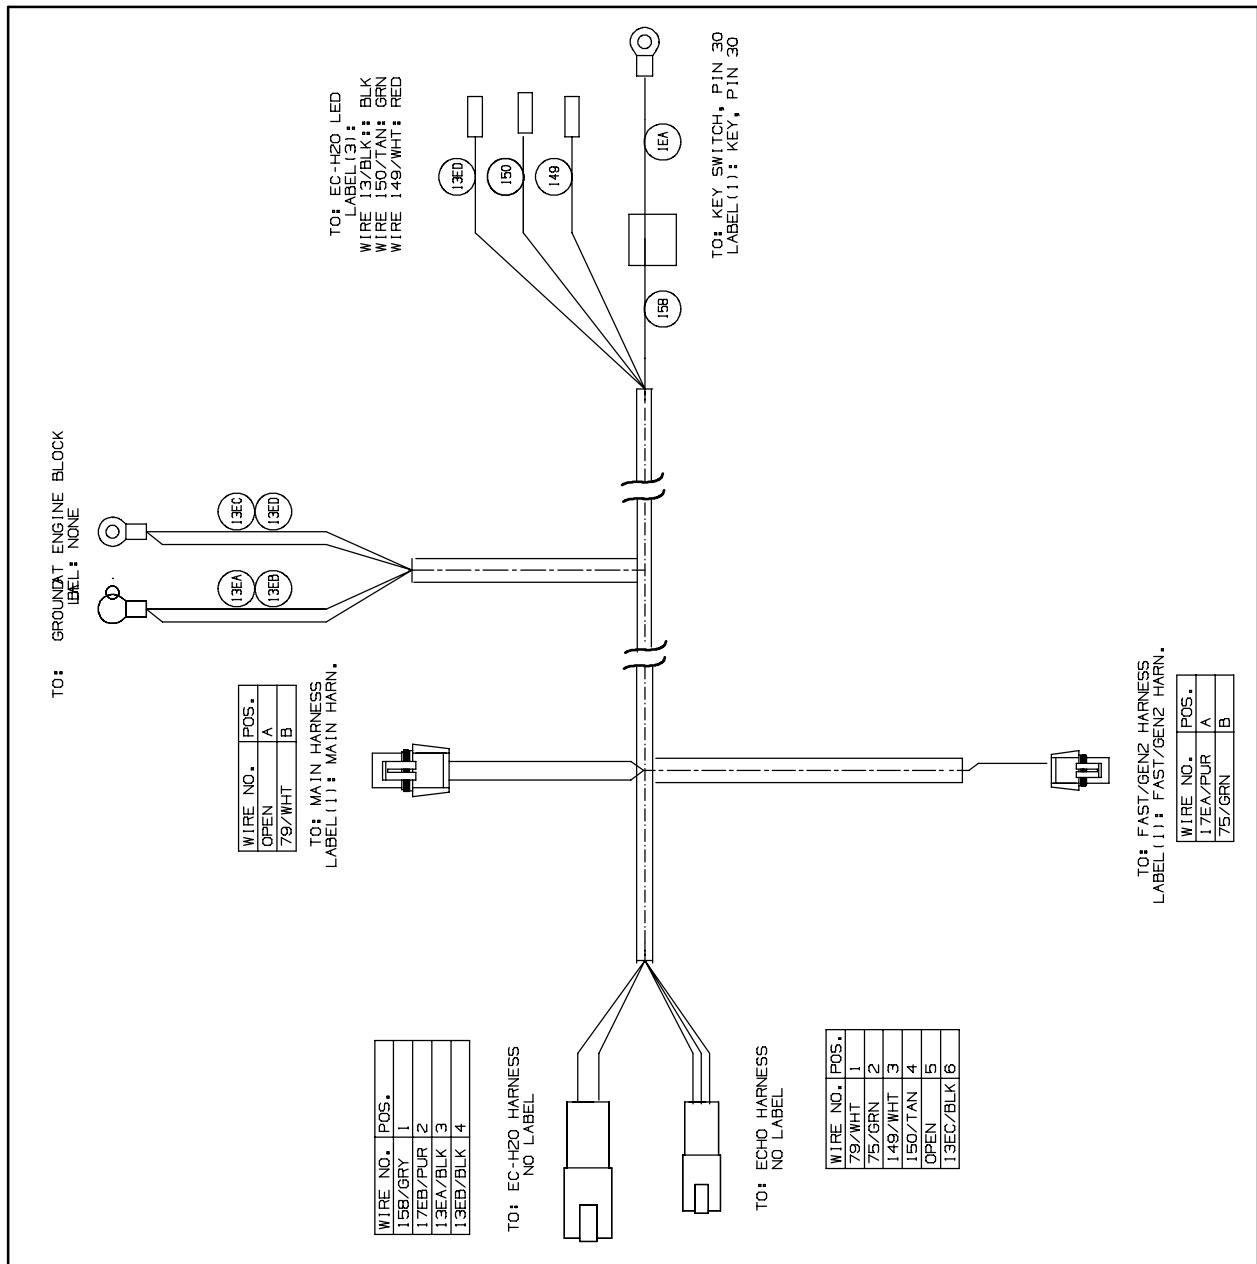

FIG. 16
50. Route the *ec-H20* harness ground lead to the engine ground and connect the ground lead to the engine ground. Refer to Fig. 16.
53. Slide the *ec-H20* harness ignition switch lead through the bottom of the boot and connect the ignition lead to the PIN 30 terminal on the ignition switch. Refer to Fig. 16.
55. Connect the *ec-H20* harness to the LED light. Refer to Fig. 16.
63. Connect the *ec-H20* harness to the *ec-H20* assembly. Refer to Fig. 16.